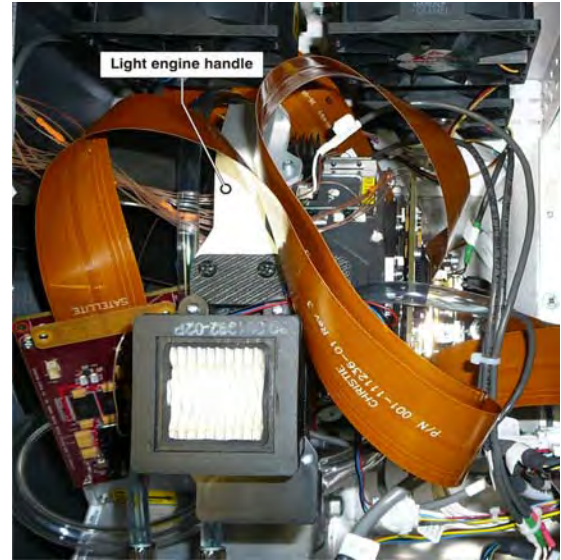

Figure 5-43 Top View of Light Engine
11. Using the built-in light engine handle, carefully lift the light engine assembly out of the projector. (**Figure 5-43**)